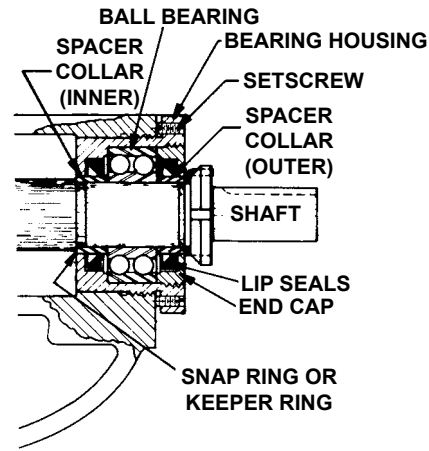

FIGURE 22
3. Examine the lip seal in the bearing housing and end cap. These lip seals are important to the assembly and should be replaced if not in first class condition. They are a grease seal for the ball bearing and also act as a shield to keep dirt and other abrasive particles from entering the bearing. When installing new lip seals, be sure they are assembled with the lips facing toward the shaft end. **See figure 22.**
NOTE: First replace the snap ring or keeper rings if furnished in your pump. **See figure 22.**